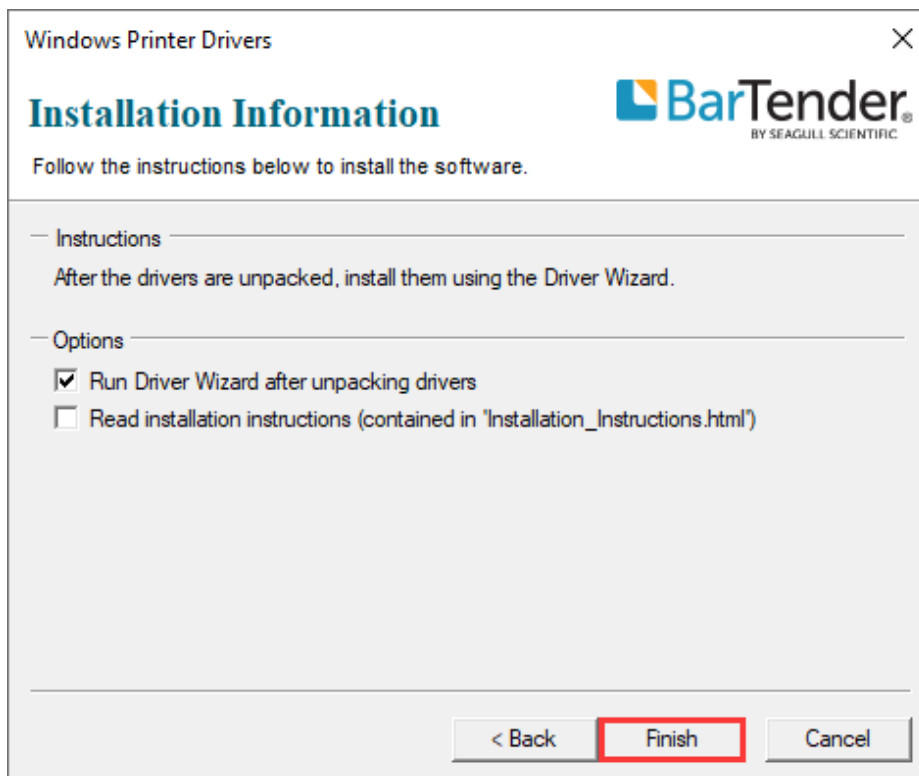

Figure 2-22 Installation Information Screen
5. On the “Installation Information” screen, check the box that says “Run Driver Wizard after unpacking drivers”, then click “Finish”, as shown in Figure 2-22.